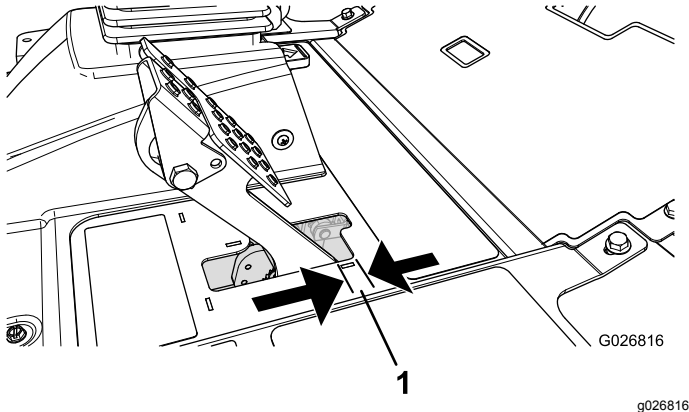

Figure 71
Adjust the brakes when there is more than 2.5 cm (1 inch) of free travel (Figure 71) of the brake pedal, or when more holding force is required. Free travel is the distance the brake pedal moves before you feel braking resistance.
2. Tighten the rear nut to move the cable backward until brake pedals have 0.63 to 1.27 cm (1/4 to 1/2 inch) of free travel (Figure 71), before wheel lock up is achieved.